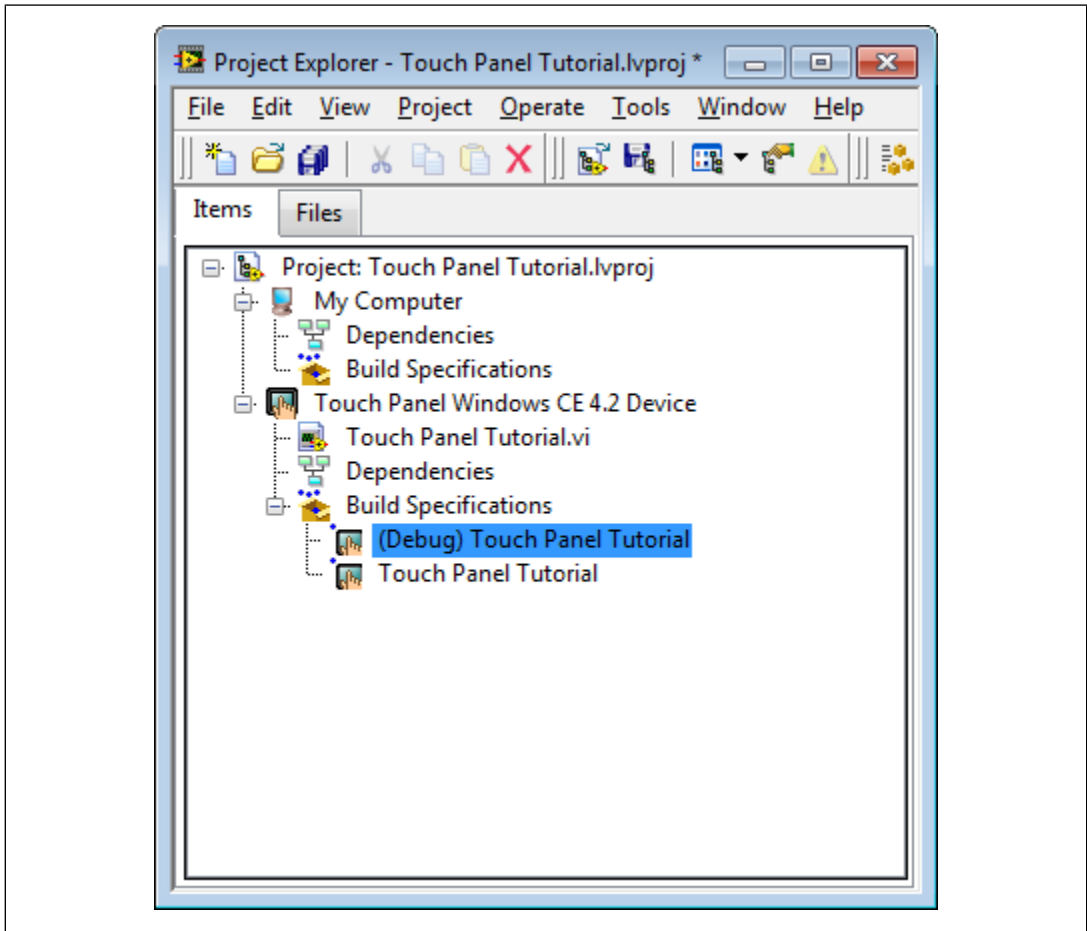

Figure 9. Two Build Specifications in the Project Explorer Window
7. Click the **OK** button. The build specification you just created appears in the **Project Explorer** window, as shown in Figure 9.